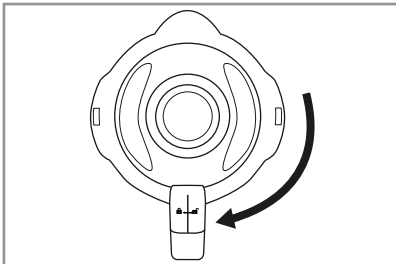

Fig. 2
- 4) Press the lid **②** firmly down onto the blender **③**. Close the lid **②** by turning it clockwise to position **🔒** until it audibly engages (see Fig. 2). Ensure that the pouring spout on the blender **③** is closed. The motor cannot start until the lid **②** is fitted flush.